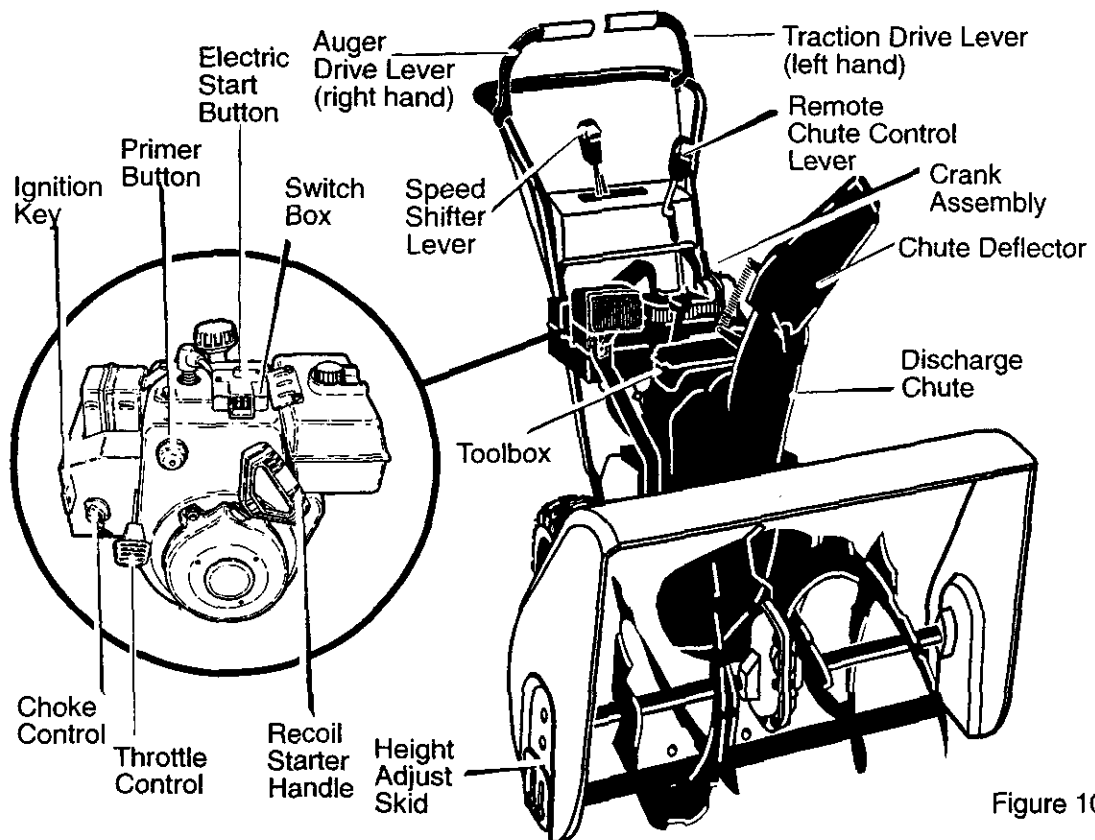

Figure 10
1. To stop throwing snow, release the **auger drive lever**. See Figure 10.